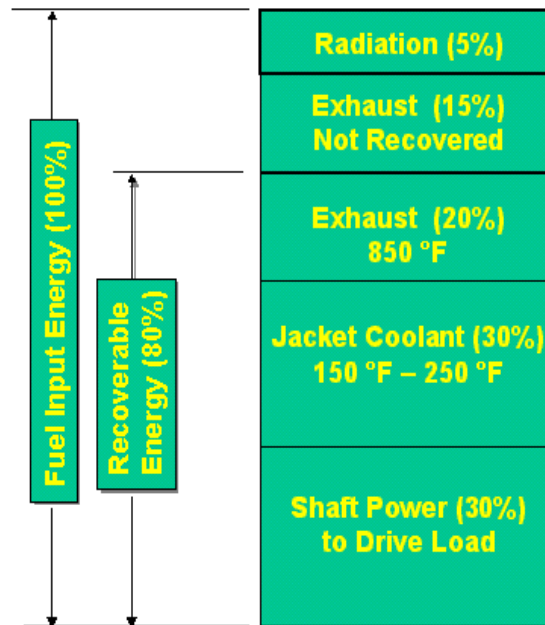

Figure 2-1 Energy Distributions for a Typical Reciprocating Engine
- **Distribution of energy** for a typical engine is shown in *Figure 2-1*.